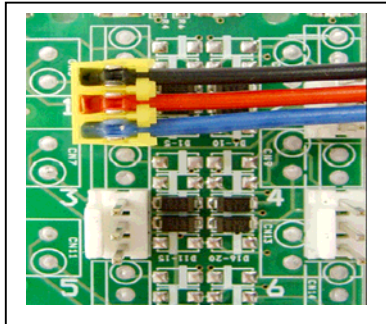

Figure 8A
3. Pay attention to relay numbering. Relay #1 should be connected to pins for relay #1 on the interface board. Connect as shown in Figure 8A, 8B and 8C. Continue in order for all relays 1-16 on RIB-A. Relays 17-32 connect to positions 1-16 on RIB-B.